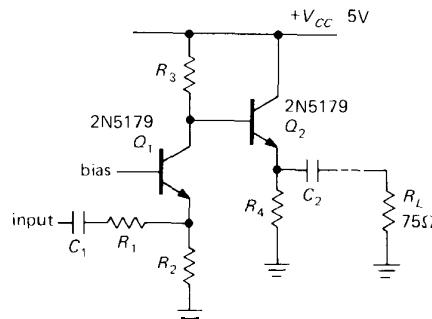

Figure 13.63
(5) Design a video amplifier with a gain of +5 and a rolloff of  $20\text{MHz}$  or more. The input impedance should be 75 ohms, and the output should be able to drive a 75 ohm load with 1 volt pp output capability. A nice way to achieve the noninverting gain is to use a common-base input stage with an emitter follower output, as suggested in Figure 13.63. If you like the circuit, finish the design by choosing operating currents, resistor values, and biasing components. You can, of course, use something like a differential amplifier/cascode/follower combination, if you prefer. Note that the gain must be noninverting, or the image will be reversed.